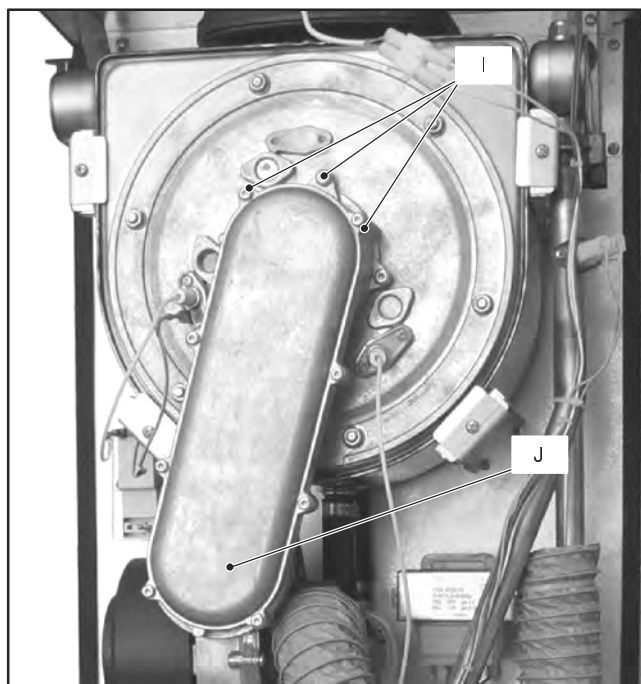

Fig. 17.4
- 8 Unscrew the screws I (Fig. 17.4).